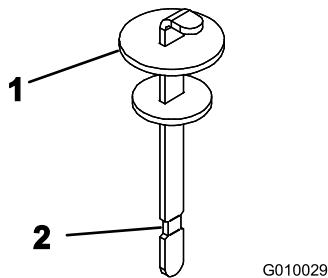

Figure 19
4. Remove the dipstick from the filler neck and wipe it with a clean rag. Insert the dipstick into the filler neck; then remove it and check the level of the fluid. The fluid level should be up to the mark on the dipstick (Figure 19).